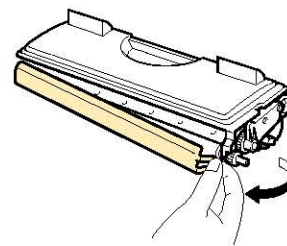

Fig. 5-6
- (5) Remove the protective cover. (Fig.5-6)